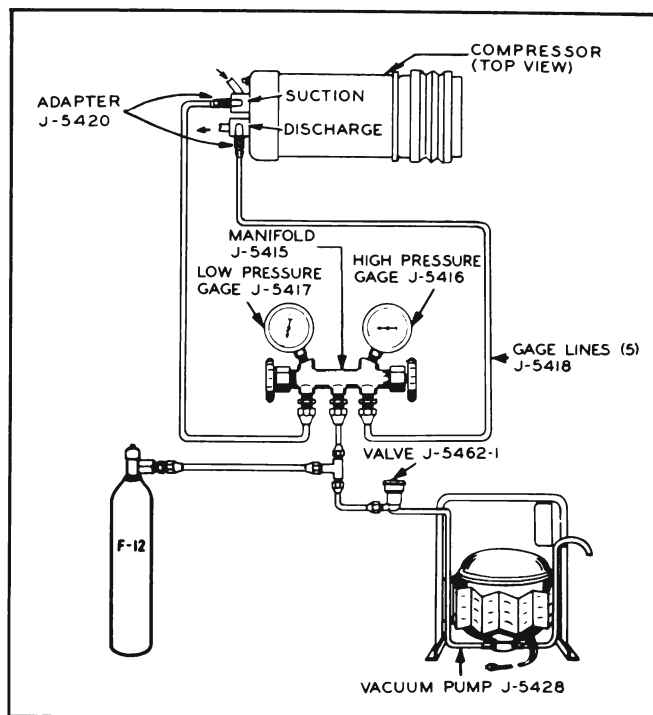

Figure 11-128—Service Gauge Hook-up for Evacuation and Charging System
1. Attach gauge lines, adapters and vacuum pump set-up as shown in Figure 11-128 and discharge any refrigerant that may be in system.
1. With the vacuum pump, refrigerant-12 cylinder and gauge set connected to the compressor as shown in Figure 11-128, place the cylinder in a bucket of hot water which does not exceed 125°F.